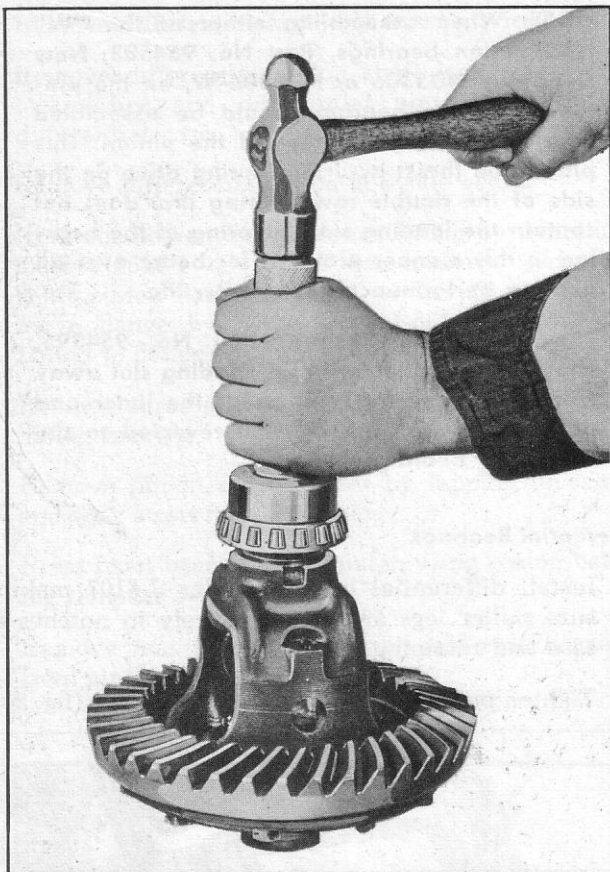

Fig. 25—Installing Differential Bearing
4. Drive bearing in place with differential side bearing replacer J-994 (fig. 25).